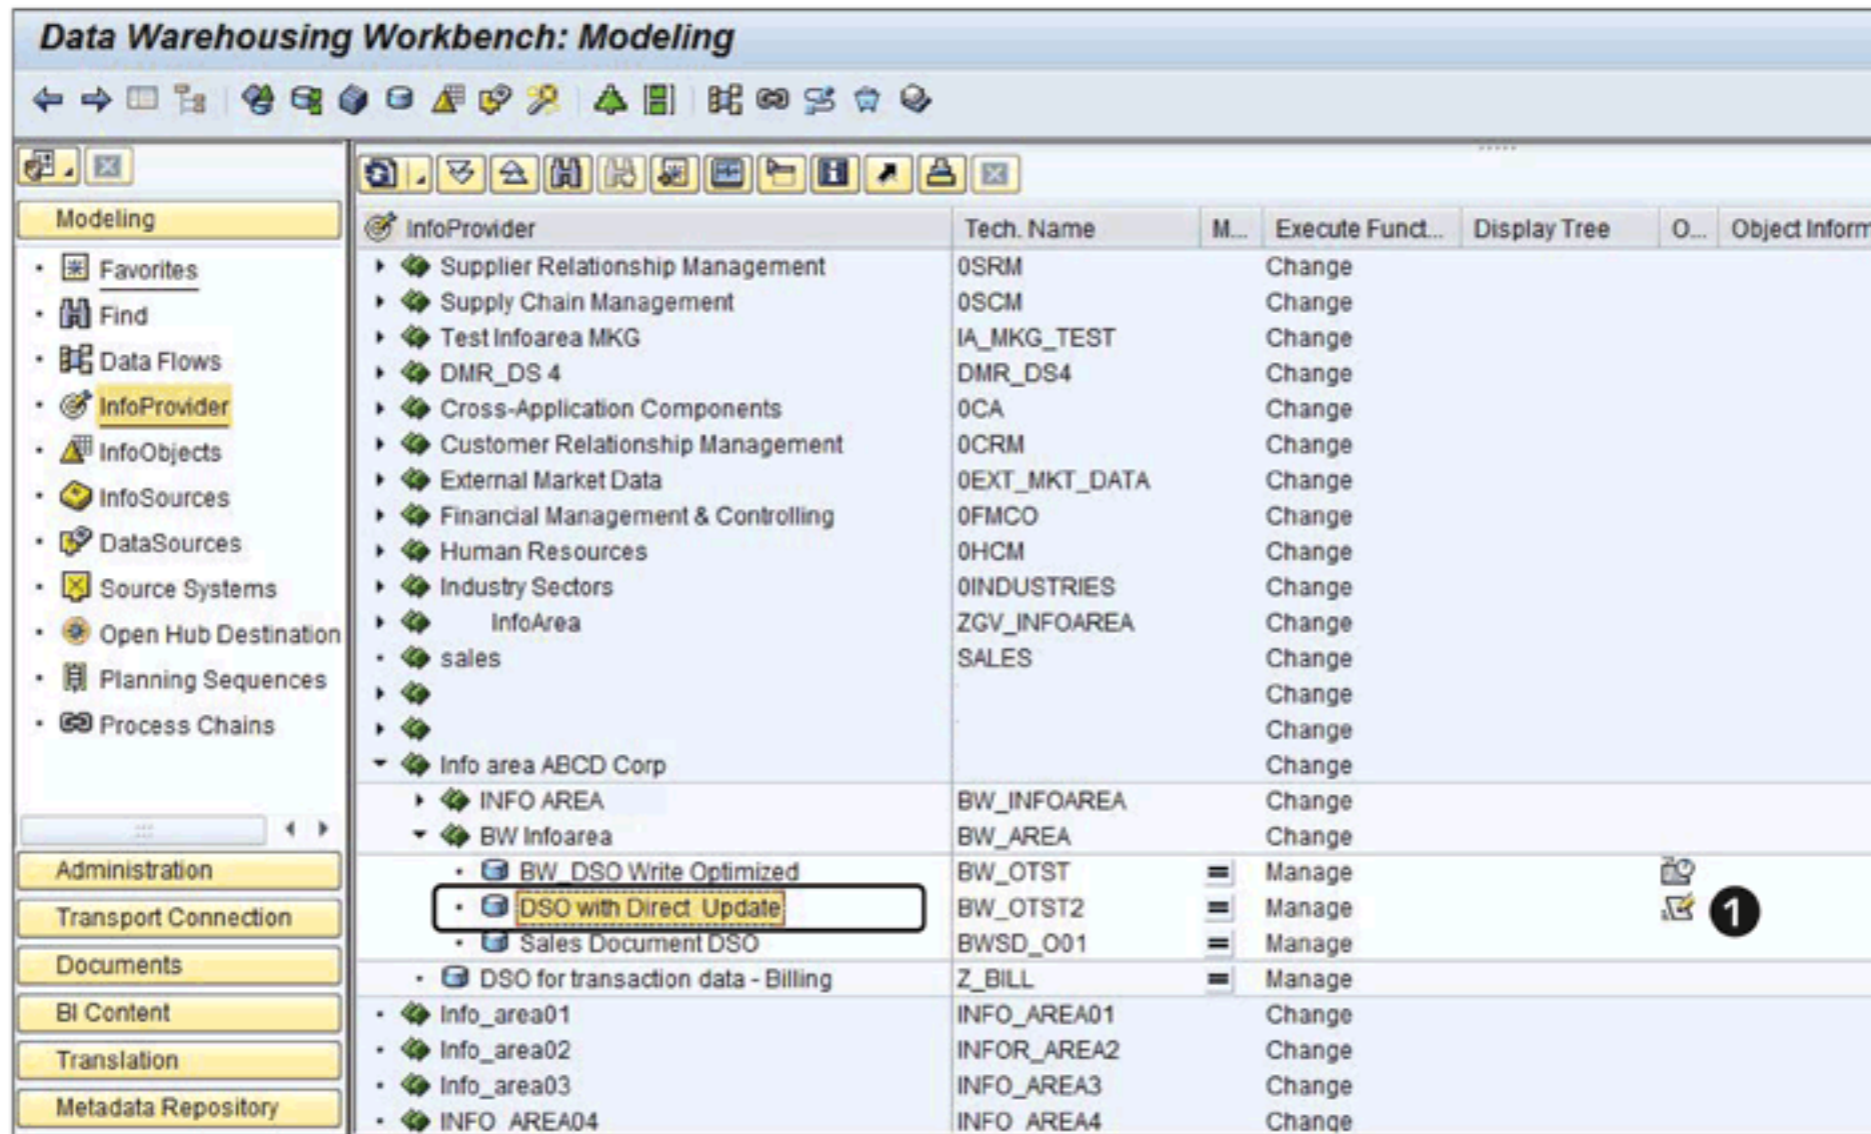

Figure 4.19 Direct-Update DSO in the DWW
Once activated, the direct-update DSO is available in the DWW under INFOPROVIDER, as shown in ❶ of Figure 4.19. As you can see, it's indicated with an icon (📄) that appears to the right of its technical name.